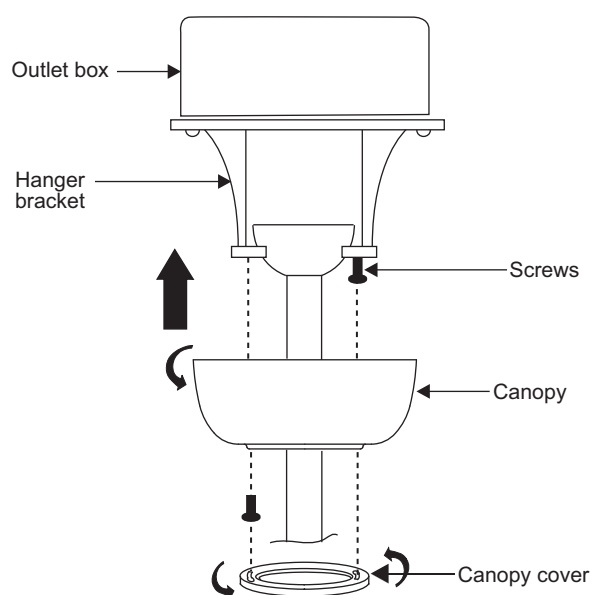

Figure 13
**Note:** Adjust the canopy screws as necessary until the canopy and canopy cover are snug. (Fig. 13)